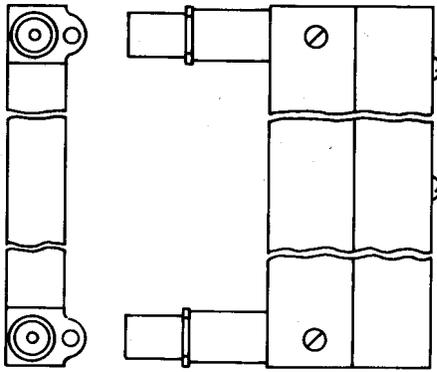

Fig. 7—557B Jack
2.07 557B: This twin coaxial-type jack (Fig. 7) has coaxially arranged inner and outer contacts. The outer contacts are connected together and the jack construction permits the strapping of inner contacts. A removable coverplate is furnished for use in covering an unused cable entrance hole. One end of the 557B jack is designed to be used with the 358A and similar-type plugs. The other end is designed for solderless shield connections to a 728A cable by means of a sleeve which is furnished as a loose part of the jack. The jack will withstand a voltage breakdown of 3000 volts ac. This jack is designed to be mounted in jack mountings such as the 185 or 230 type. The mounting lugs on the two individual jacks may be positioned for mounting side-by-side, in the same direction, or extended back-to-back. The jack is used with the L4 Coaxial System and is recommended to be used in place of the 557A jack.